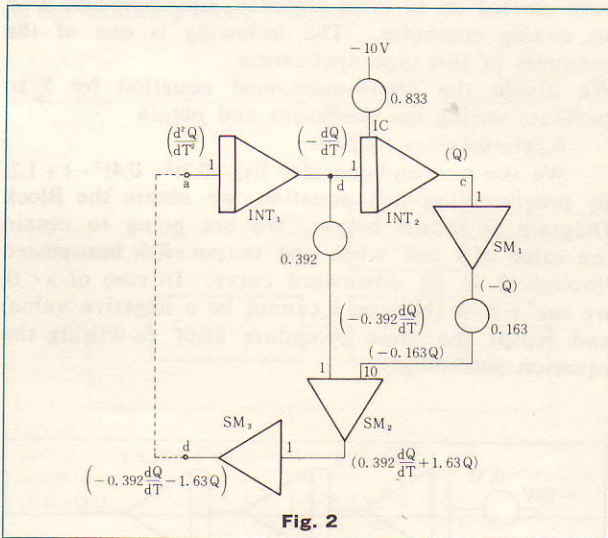

Fig. 2
The equation (9) means that the voltages at points a and d in the diagram (Fig. 2), which was formed in the way explained above, are equal. Therefore, the Block Diagram can be completed for the time being by connecting these two points by a dotted line. The initial value of Q is given to the IC terminal of INT_2 by inverting its sign at the output side. On looking closer at the diagram in Fig. 2, it is found that INT_1 , a Summing Integrator, can add and integrate a multiple number of inputs. Thus SM_2 and SM_3 become unnecessary; and finally, the Block Diagram shown in Fig. 3 is completed.